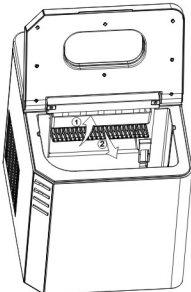

Fig. C2
3. Lift up the grille and take it out, then clean it with water. (Fig. C2)